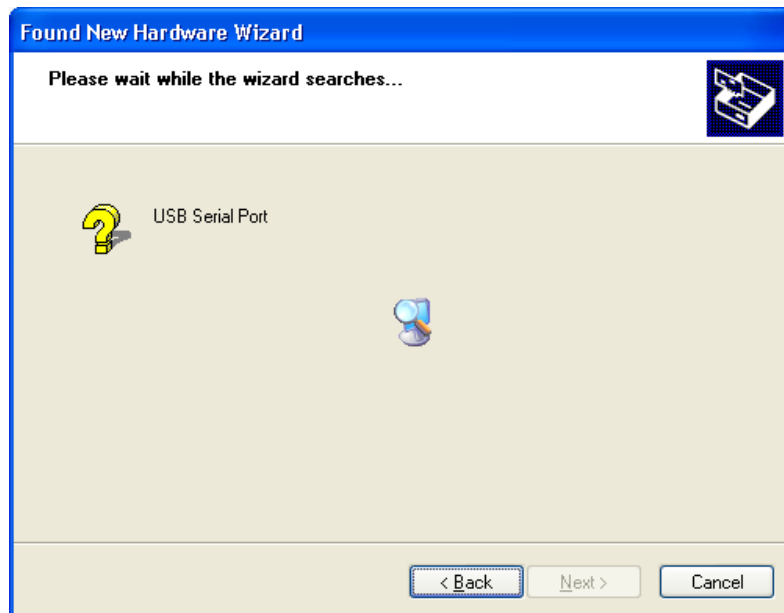

Figure 4. Driver Coping Window
8. A window is now displayed showing the driver software being located and then copied (Figure 4).